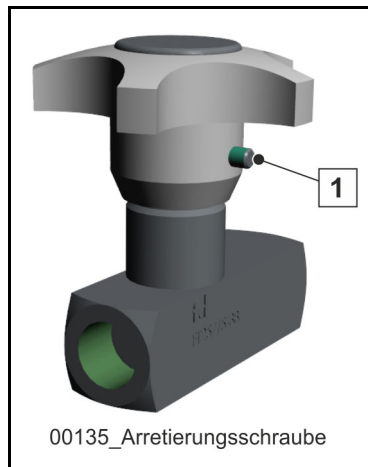

Fig. 323
- Loosen the locking screw (1) (**Fig. 323**) on the one-way restrictor
- Tighten the locking screw (1) (**Fig. 323**) on the one-way restrictor